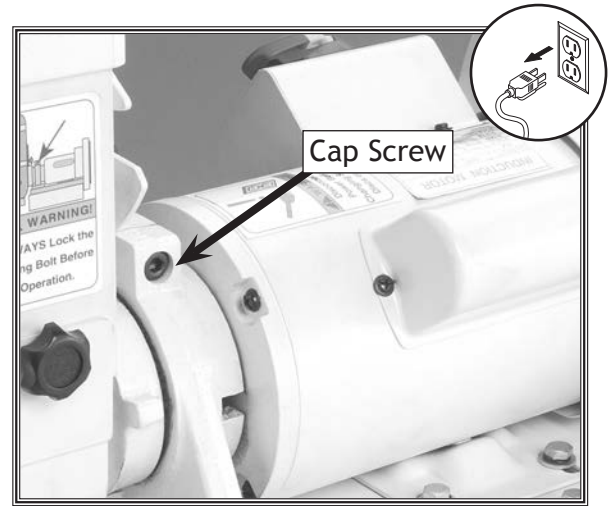

Figure 15. Cap screw location.
3. Loosen the cap screw shown in **Figure 15** to allow the sanding belt to rotate.